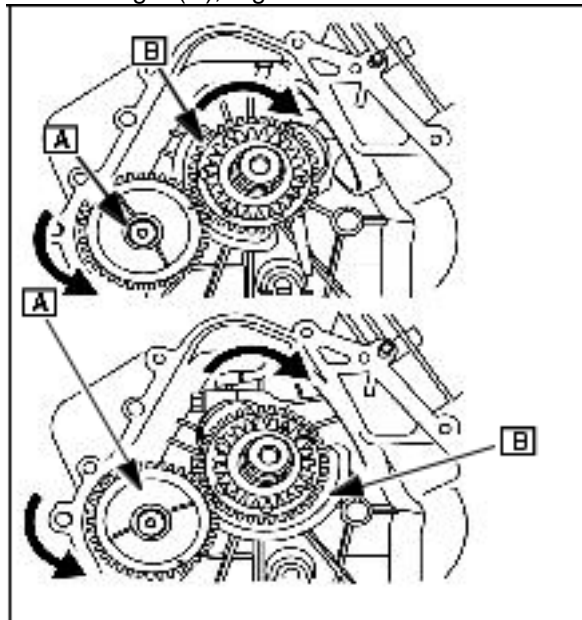

Fig. 8
This system uses a geared counterweight (A) that rotates opposite the crankshaft counterweight (B), Fig. 8.